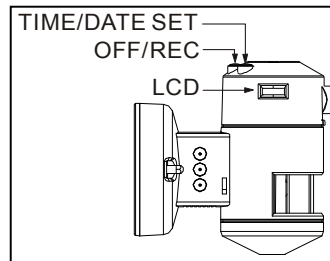

Fig. 11
1. Push TIME/DATE SET button (see fig. 11) for 3 seconds, LCD screen will flash 3 times indicating you have entered Time/Date setting mode.